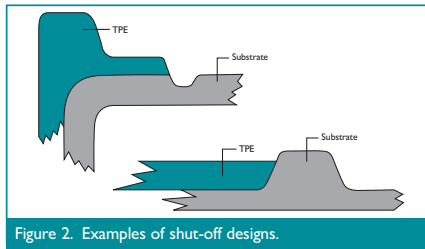

Figure 2. Examples of shut-off designs.
- Provide a 0.015" – 0.030" (0.38 mm – 0.76 mm) deep groove on the substrate, along the edge of the TPE overmold (Figure 2). The steel should have positive shut-off in the groove. In addition, shrinkage of both the TPE and substrate should be considered.